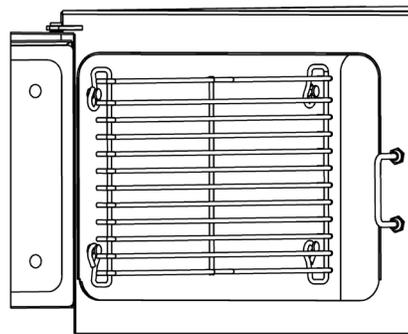

Figure 3-9
- See Figure 3-9. Each rack has four loops; two top and two bottom.